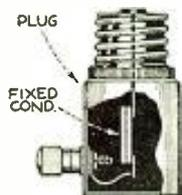

FIG. 1
Fig. 1 is the arrangement in the radio-frequency section found only in late model receivers, yet the increase in volume and sensitivity obtained would benefit the receivers of some of our readers whose complaints are in that direction. The condenser employed is .006 microfarad capacity of the fixed type commonly used in set construction. Fig. 2 is for by-passing the audio transformer, using a standard type of by-pass condenser of 1 or 2 microfarad capacity. This practice is standard on the best of receivers and power amplifiers and will result in the reduction of background noises and better tone quality.
**T**HE antenna one uses in conjunction with a modern radio receiver may be of almost any type or form. In most cases, however, use is made of an outside antenna consisting of a single piece of wire from 20 to 100 feet in length suspended in the air by means of insulators. Indoor antennas consist of a single wire wound around the molding of a room or strung up in the attic. Some receivers give excellent results with "light socket" antennas, consisting of a plug which is screwed into a light socket. Inside the plug, as shown in Fig. 1, is a small fixed condenser one terminal of which connects to one side of the a.c. line, and the other terminal of which is brought out to a binding post on the side of the plug. Connection is made between this binding post and the antenna terminal on the receiver. Some sets are designed for the use with a loop antenna, frequently concealed inside the cabinet of the receiver. But no matter what type of antenna is used its purpose is the same—to intercept a small amount of the radio-frequency power radiated through the ether from the broadcasting stations. The antenna used at the broadcast transmitting station must send out through the ether thousands of watts of power—the antenna connected to your receiver must intercept but microwatts of power. A broadcasting station antenna might transmit, for example, say 25,000 watts and the antenna on the set intercepts but millionths of a watt of power! The broadcast station antenna is suspended by means of insulators, and when the station is "on the air" the voltage across these insulators may be 10,000 or 50,000 volts. The voltage across the insulators of the receiving antenna is only millionths of a volt. These figures give some idea of the differences between antennas for transmitting and receiving. In this experiment sheet let us consider some of the characteristics of the receiving antenna.